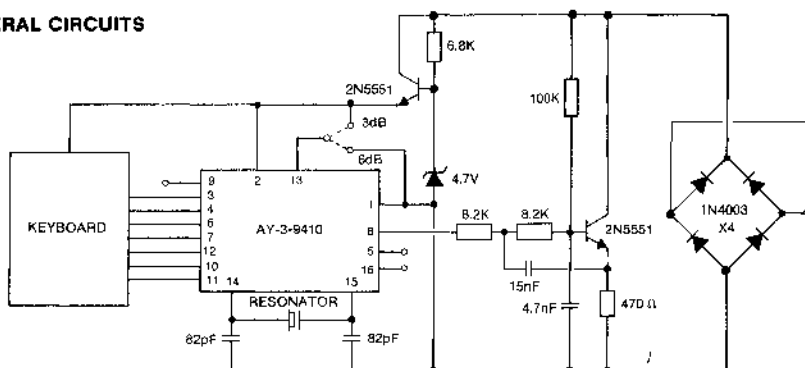

Fig. 1a HIGH IMPEDANCE BUFFER
A low pass filter buffer amplifier is used to remove switching noise and interface the tones to the line. There is an option of either a low impedance or a high impedance output (see figs. 1a and 1b).
3. The output would be buffered to drive the line, the buffer can be arranged to have either a high impedance current output or a low impedance voltage output (See Figs. 1a and 1b).